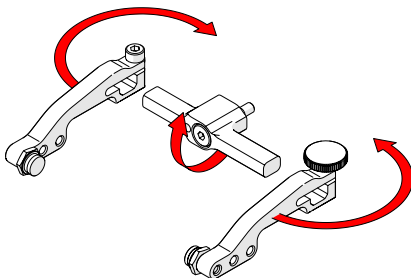

Fig. 206 - Flip yoke and reverse arms
3. Flip the yoke 180° and reverse the probe holder arms (*Fig. 206*).